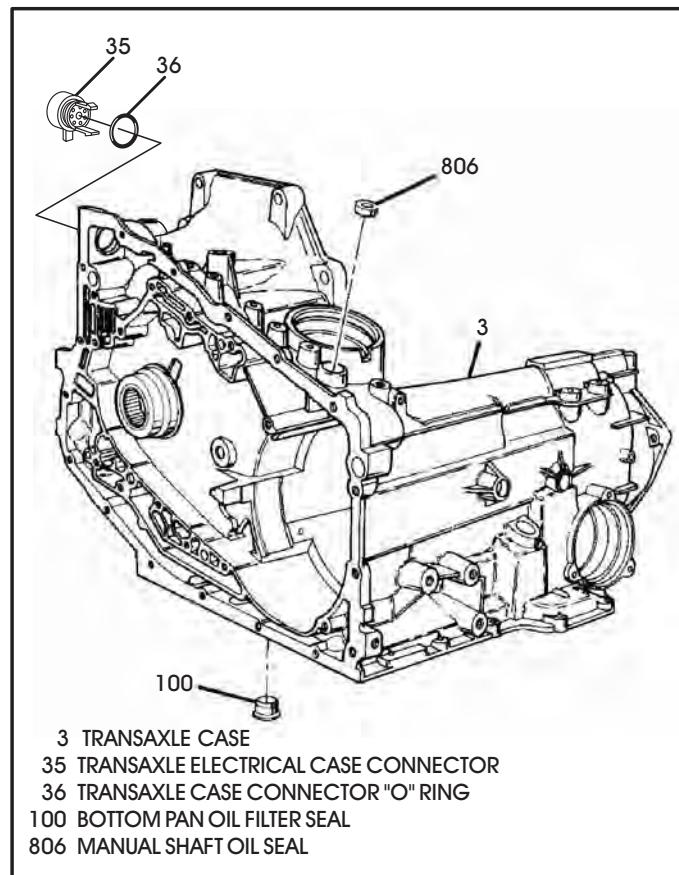

Figure 74
3. Install new "O" ring seal onto transaxle case connector, as shown in Figure 74, and lube with small amount of Trans-Jel®.
4. Install case connector into the transaxle case until it snaps into position (See Figure 74).
5. Install new oil filter seal into the case bore using the proper seal installer (See Figure 74).
6. Install new manual shaft seal and lubricate with small amount of Trans-Jel®, as shown in Figure 74. Use a 15mm deep socket to tap the seal into position in case.